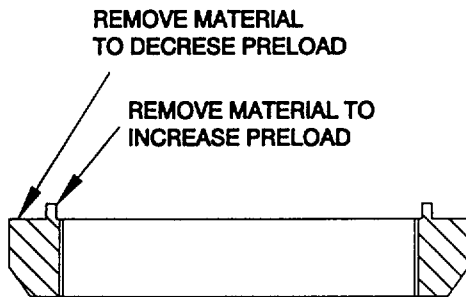

Figure 4-3. Slotted Nut Preload Adjustment.
8. Tap outer race of conical roller bearing (63) into ball end housing (58) using composite hammer or brass drift.
9. Heat inner bearing (63) to approximately 250° F and install on shaft Wide face of inner race seats against backside of output bevel gear (64).
10. Tap outer race of conical roller bearing (62) into ball end housing (58) using composite hammer or brass drift.
11. Stand and support output bevel gear (64) in a vertical position, gear face down. Lower ball end housing (58) over shaft (67), heat inner bearing (62) to approximately 250° F and slide onto shaft (57).
12. Lightly oil threads and install slotted nut (61). Bearings preload should be 0.02 - 0.04mm. If not, slotted nut (61) must be removed and machined to achieve this preload. If preload is insufficient, a small amount of material must be lopped off the top of the ridge on the slotted nut. (Refer to figure 4-3). If preload is too great, a small amount of material must be machined off the shoulder flat. Once the proper preload is achieved, torque the slotted nut to 1480 ft-lbs.
13. Install three hexagon socket head set screws (59), with Loctite, into slotted nut (61) and torque to 25 ft/lbs.